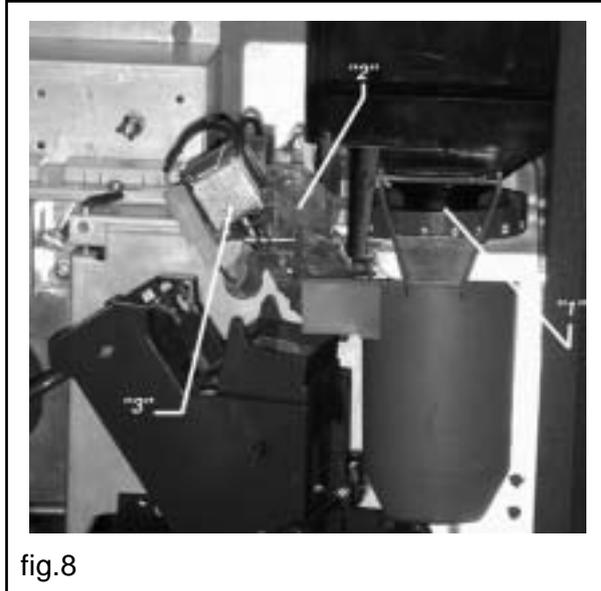

fig.8
- the grinder (ref. 1 fig.8) is engaged and runs until the ground coffee dose set by the dosing unit (ref 2 fig.8) is reached.
- the electromagnet of the dosing unit (ref. '3' fig.8) controls the door opening and the subsequent falling of the coffee into the brewing cup.